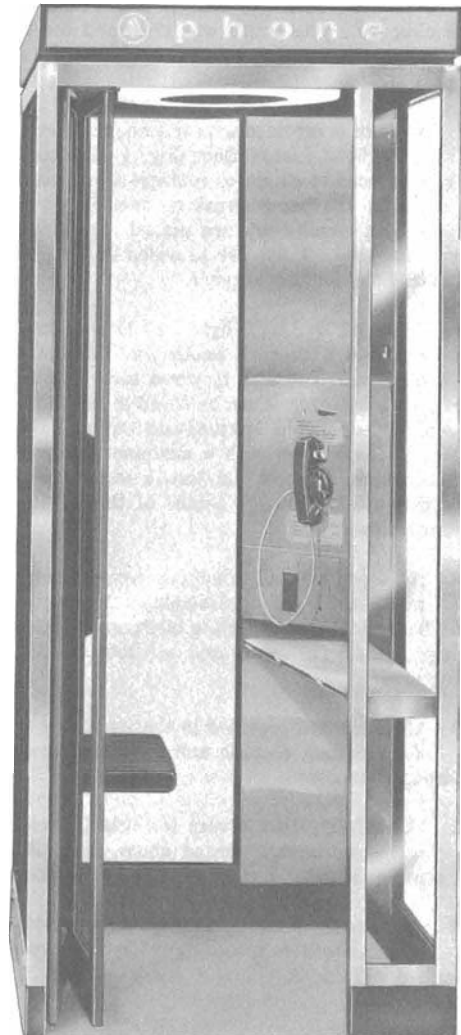

Fig. 1—KS-19442 Deluxe Glass Telephone Booth
- 1.02** The KS-19442 deluxe glass telephone booth is designed for indoor, sitdown service (Fig. 1). It may be used singly or in various multiple arrangements (side-by-side and/or back-to-back).
2.07 No floor is provided with this booth; however, a KS-19442, List 90 floor (Fig. 1) is available and can be used in single or multiple installations. The walls of the booth must be secured to the surface upon which they are placed if a List 90 floor is not used. Holes are provided in the lower wall extrusions for this purpose.